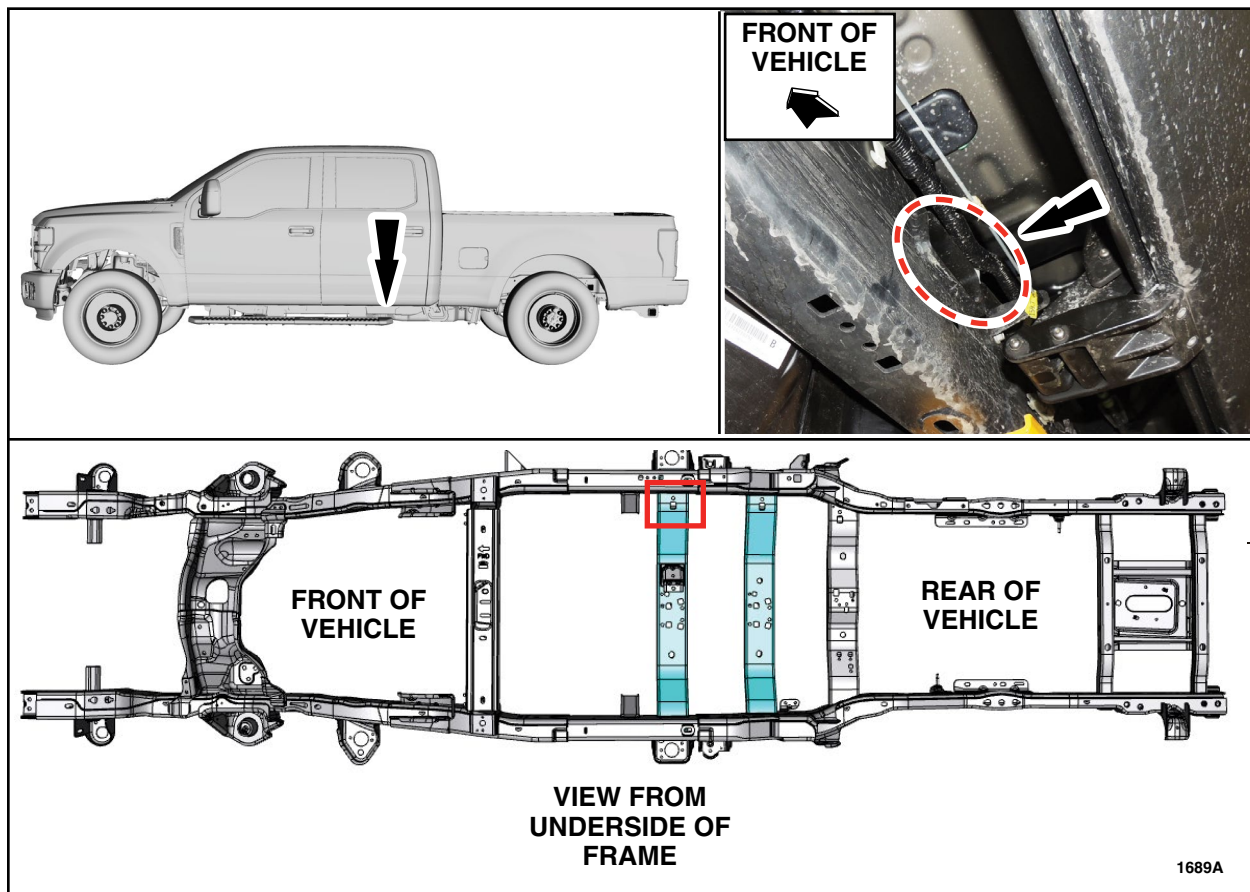

FIGURE 1
2. Inspect the number three crossmember for the presence of a frame crossmember reinforcement bracket located inside the LH frame rail near the front fuel tank strap. See Figures 1 and 2.